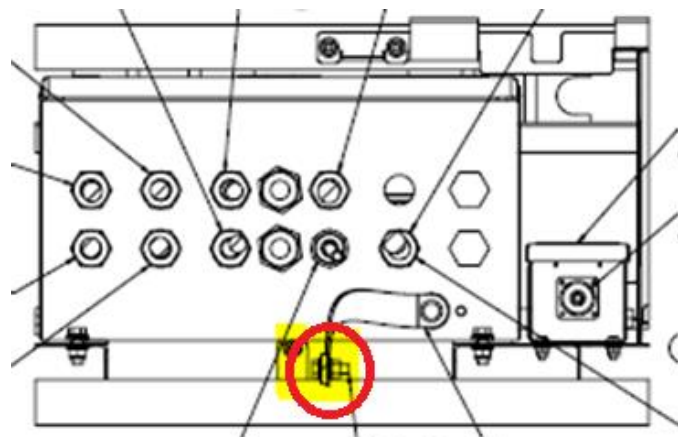

Figure 16: HV Fuse Box Upper Ground Strap Connection
51. Ensure the 5/16 bolt at the lower ground strap connection for the High Voltage Fuse Box circled below in Figure 16 is torqued to 15 ft-lbs.